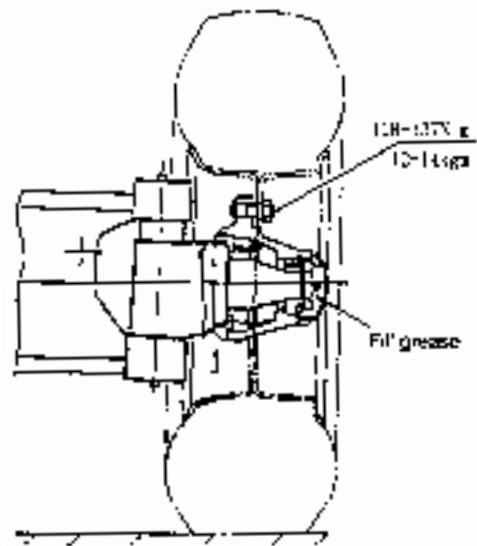

Fig5.7 Pre-load adjustment
- a. As shown in Fig5.7, fill up the chamber formed by wheel hubs, wheel hub bearing and wheel hub covers with lubricating grease. Coat the lips of the oil seals with lubricating grease.